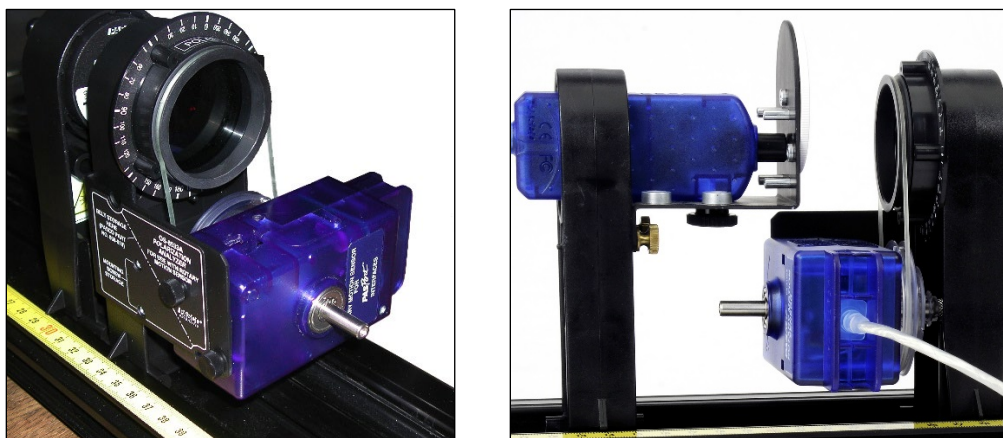

Figure 6: Rotary Motion Sensor Connected to Polarizer with Belt
4. Remove the black rod attachment adaptor from the Rotary Motion Sensor (RMS) using the attached tool. Make sure the pulley on the RMS is mounted so the large pulley is toward the body of the RMS. Using the two mounting screws stored on the Polarization Analyzer bracket, mount the Rotary Motion Sensor on the polarizer bracket so the pulley is toward the bracket. Connect the large pulley on the Rotary Motion Sensor to the polarizer pulley with the plastic belt stored on the polarization bracket (see Figure6).